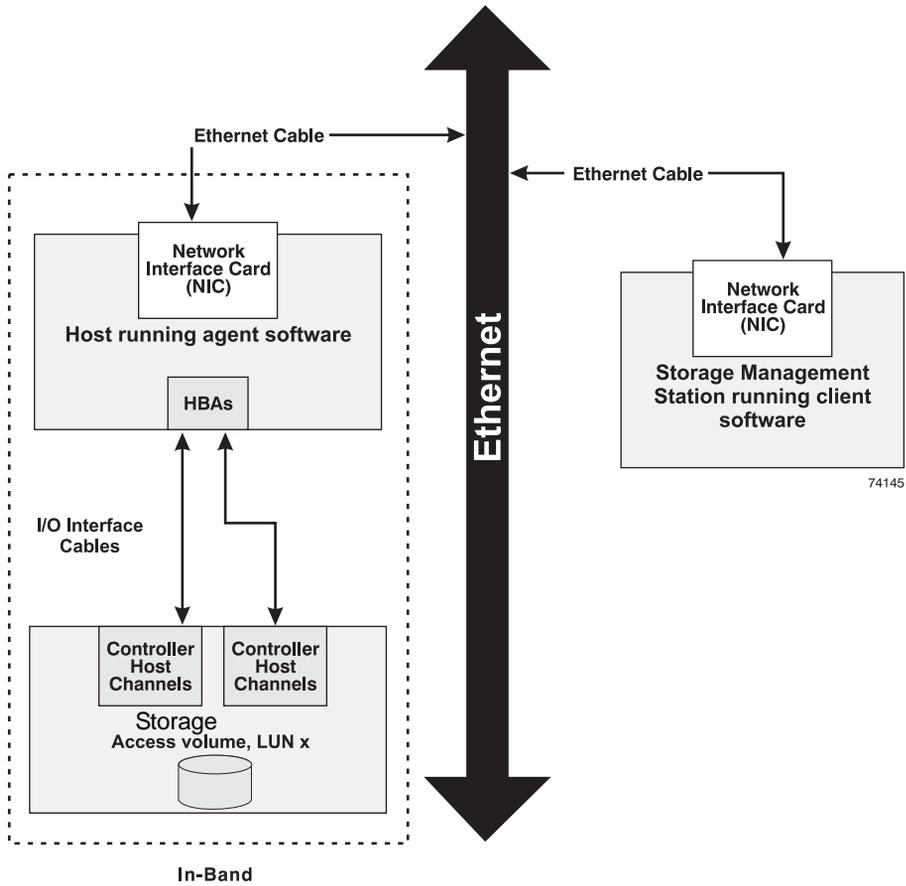

Figure 3 In-Band Management Topology
**In-band Management** – A method in which the controllers are managed from a management station through a host using the I/O connections between the host and the controllers. See Figure 3 on page 9.
- 1 Use the key terms, Figures 3 and 4, and Table 2 on pages 9 through 11 to determine the management method you will use.